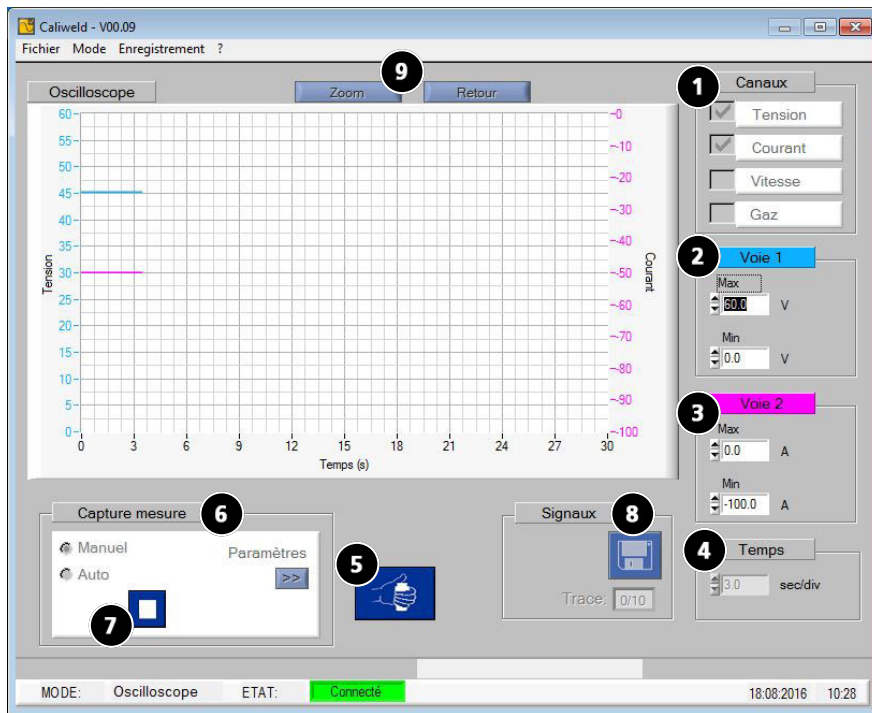
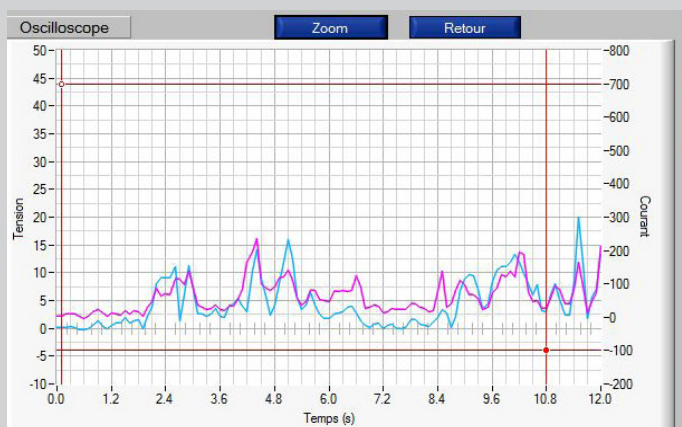
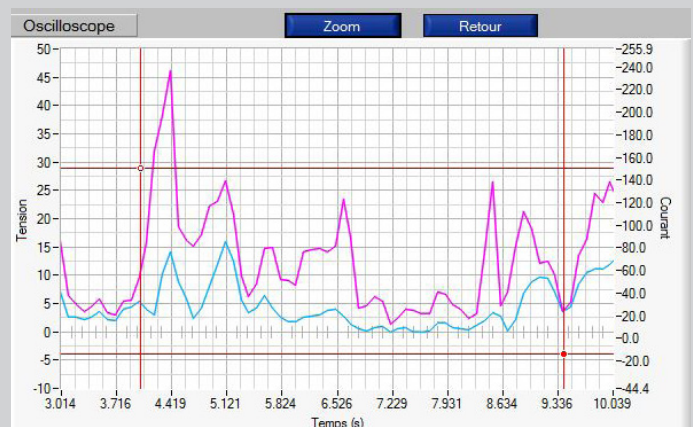

Fig.5: Oscilloscope page
Fig.6: Chart before zoom
Fig.7: Chart after zoom
**DESCRIPTION (Fig.5: oscilloscope page)**
The oscilloscope mode allows you to select two measurement channels, view them and save them on a chart. This additional mode allows to focus on a precise channel and to compare it to another channel thanks to its chart. The elements which are included in the Oscilloscope mode page (Fig.5) are:
- Two sections «Way 1» **2** and «Way 2» **3** are displayed once one or two channels have been selected. The measurement unit displayed in each section is used to check that the ways represent the selected channels (ex fig.5: The voltage has been selected as the first channel to be measured, the measurement unit of «Way 1» is in Volt).
The software offers the possibility of zooming on the oscilloscope. To do so, click on the «zoom» button (**9** Fig. 5) a first time and 4 points will appear on the chart (2 horizontally and 2 vertically). Use these points to create a rectangle on the area where the zoom is required (Fig. 6). Then click again on the zoom button (fig.7). To go back to the standard view, just click on the return button.
To start a new manual recording, tick the «manual» box in the «measurement recording» menu. The START box appears (7 fig. 5) and changes to a STOP box when the recording starts. To start recording the measurements, either activate the machine by using the remote control (5 fig.5), or by welding, and then press the button  each time that a recording is required. The recording of the weld bead then starts.
Recording can be automated by ticking the «Auto record» box (6 fig. 5). Firstly, adjust the welding settings. Similarly to the «multimeter» mode, the following options appear in the automatic recording settings:
The operating of the oscilloscope automatic mode is similar to the multimeter. Firstly, either activate the machine by using the remote control (5 fig.5) or by welding. Then click on the button  (7 fig. 5). The software will record any cord as soon as the current or flow rate is higher than the selected trigger threshold. It stops recording the cord as soon as the current or flow rate is lower than the trigger threshold.
Two actions will stop the measurements: either the user clicks on the button  (7 fig. 5) or if the duration of the recording reaches 30 seconds.
At the end of the recording, it is possible to save and display the oscilloscope recordings (up to 10 lines max). Just click on the button  (8 fig. 5), name the recording and click on . Click on the button  to validate the recording.